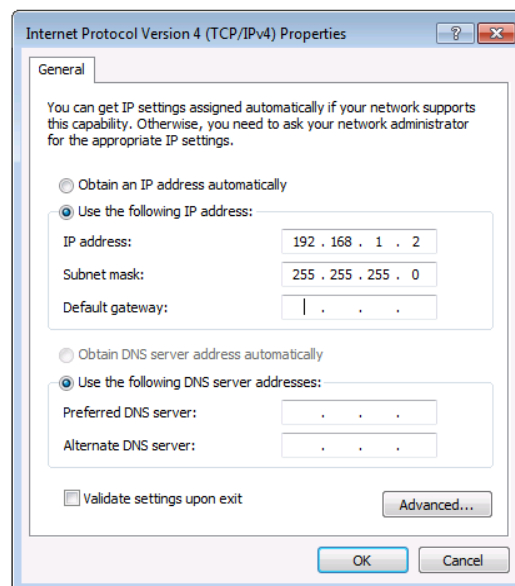

Figure 14: Internet Protocol Properties Window
6. Select **Use the following IP Address** for static IP addressing and fill in the details as shown in Figure 14.